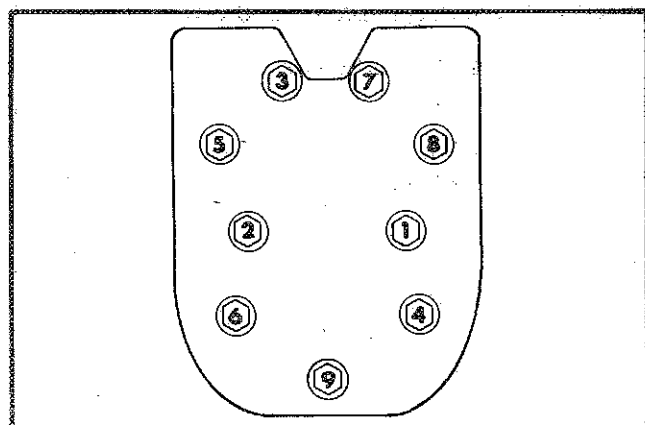

Figure 3-10. Cylinder Head Fastener Tightening Sequence.
3. Reinstall cylinder heads using new gaskets. Torque cylinder head fasteners to 15/20 ft. lb. in the sequence specified in Figure 3-10.